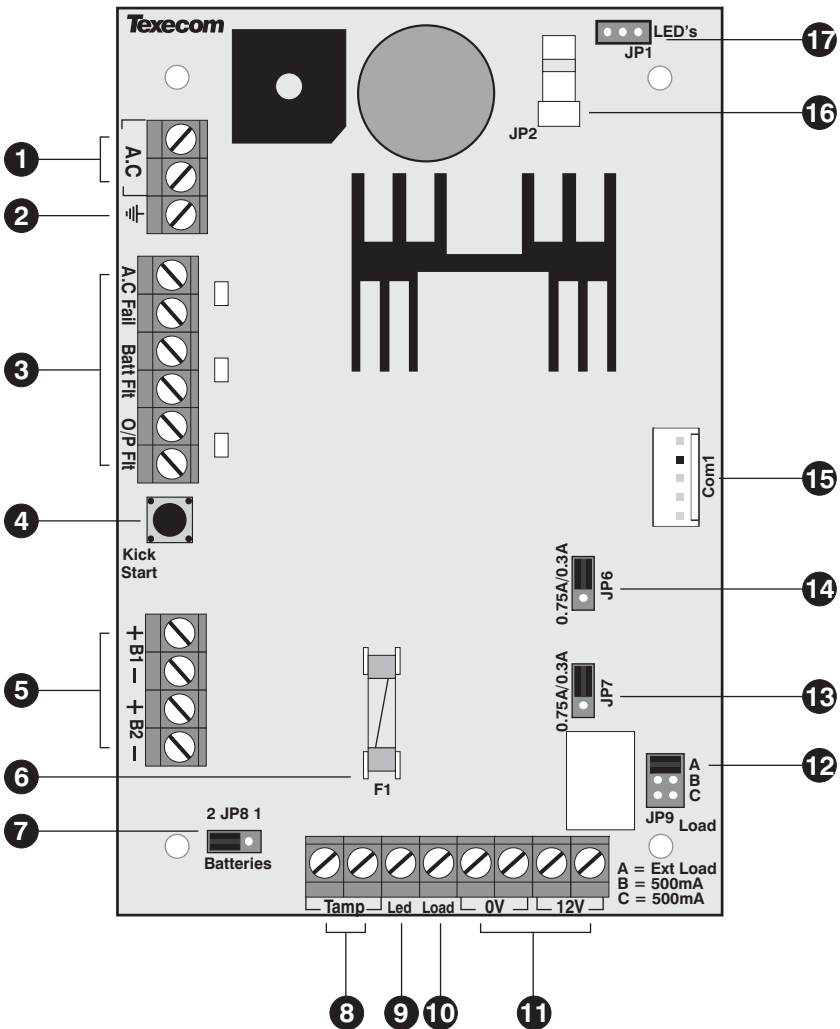

Figure 2. PCB Layout
The “Alert” indication can be disabled by applying 0V to the “LED” terminal (see item ⑨ of Figure 2)
If an external load is used it must be connected between the "Load" and "12V" terminals (see items ⑩ and ⑪ of Figure 2).